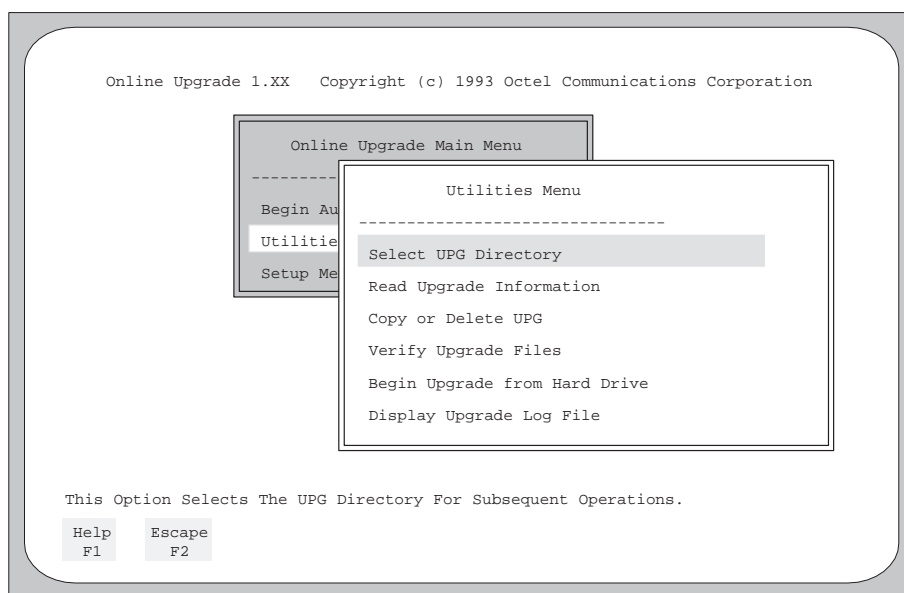

Figure 13-7. Utilities Menu.
1. From the Online Upgrade Main Menu, access the Utilities Menu, then press **Enter**. The Utilities Menu appears, as shown in Figure 13-7.